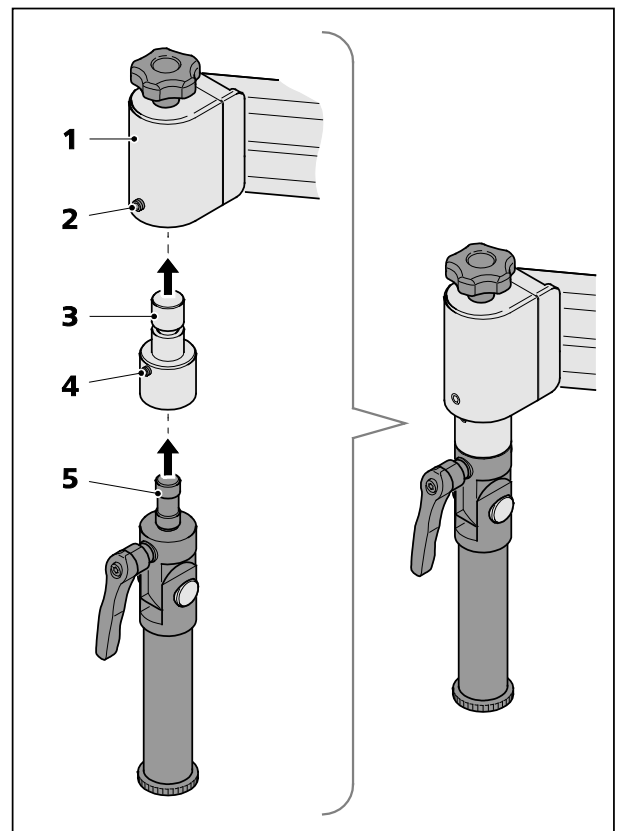

Fig. 7 Mounting the tilting head
- If necessary, slightly slacken the clamping screw (Fig. 7/2) on the articulated suspension arm U (Fig. 7/1).
- Insert the adapter for the tilting head (Fig. 7/3) into the clamping cylinder of the articulated suspension arm and secure with the clamping screw (Fig. 7/2). Ensure that the clamping screw engages in the slot of the tilting head adapter and is fully screwed in.
- Slightly loosen clamping screw (Fig. 7/4) on the adapter for the tilting head, if necessary.
- Plug in the tilting head (Fig. 7/5) into the mounting hole of the adapter and fix it using the clamping screw (Fig. 7/4). Ensure that the clamping screw engages in the slot of the tilting head and is fully screwed in.